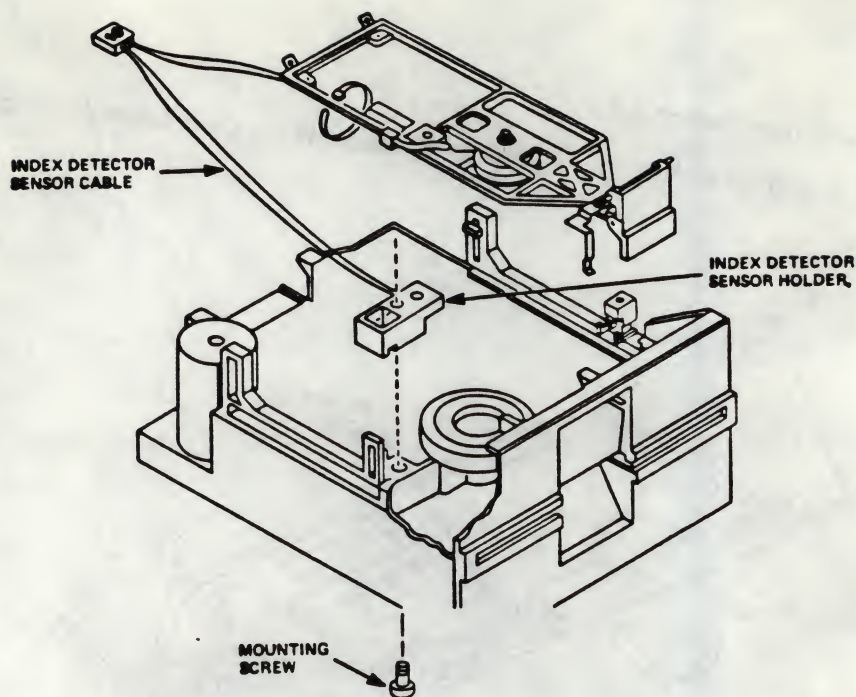

Figure 5-16
5.9.6 With a Phillips screwdriver, remove the mounting screw from the bottom of the disk drive that attaches the index detector sensor holder to the chassis (see Figure 5-16).